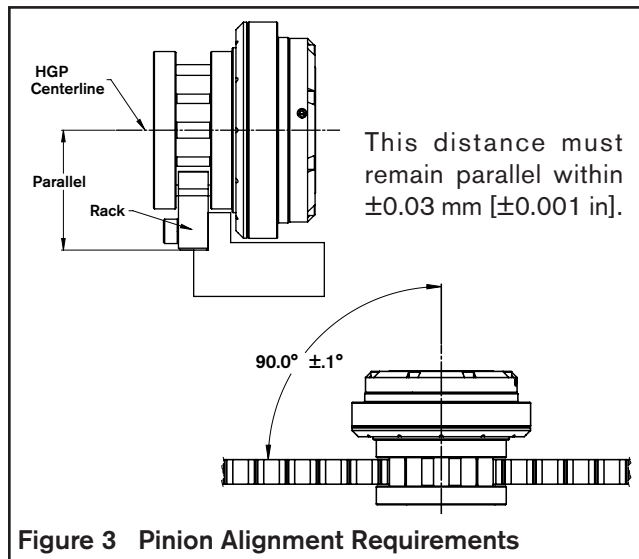

Figure 3 Pinion Alignment Requirements
- Unlike traditional rack and pinion drives, the RPS has zero mechanical clearance and requires a system preload for proper operation. This preload must remain relatively consistent over the entire run to obtain optimal system performance and life. Therefore it is crucial that the linear guiding system's mounting surfaces are very parallel with those of the RPS system, eliminating the potential for convergence or divergence at any point. If the guiding system and RPS converge, preload will become excessive resulting in increased noise, reduction of life, and potential binding within the RPS. If the guiding system and RPS diverge, preload will be lost resulting in backlash, loss of positional accuracy, increased noise, and reduction of life. The main consideration when establishing guiding system and RPS mounting surfaces within a machine is that they rise and fall together, at the same rate and position within the run so that RPS preload remains within specifications. The best way to ensure minimal variation between the guiding system and the RPS is to machine their mounting surfaces within the same machining operation. See Figures 3 and 4 for more details.
In order to minimize backlash, obtain the highest positional accuracy, and minimize wear on the rack, the RPS must be installed on rigid, straight, flat mounting surfaces with the tolerances shown in Figures 3 and 4.
- The pinion shaft must be parallel (± 0.03 mm [± 0.001 in]) to the rack mounting surface opposite the rack teeth and the angle between the pinion shaft and the face of the rack must be $90^\circ \pm 0.1^\circ$ maximum as shown in Figure 3.